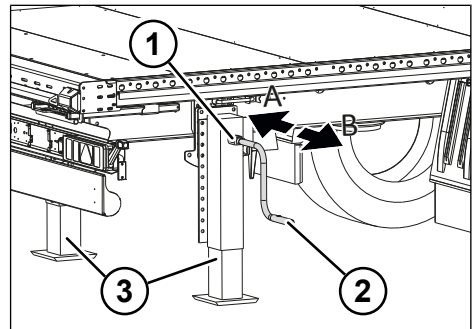

Fig. 5-9: Load speed and high speed of the rear brace
- ▶ Switch on high speed by pulling out the hand crank (see "Fig. 5-9: Load speed and high speed of the rear brace", pg. 33).
- ▶ Switch on load speed by pushing in the hand crank (see "Fig. 5-9: Load speed and high speed of the rear brace", pg. 33).
- ▶ Set to load speed by pushing in the hand crank (see "Fig. 5-9: Load speed and high speed of the rear brace", pg. 33).
- ▶ Set to high speed by pulling out the hand crank (see "Fig. 5-9: Load speed and high speed of the rear brace", pg. 33).